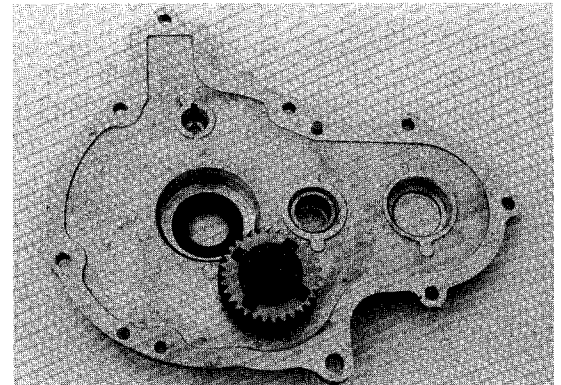

Figure 10-17
4. Install the idler shaft assembly into the cover. Torque nut to 36-50 ft.-lbs. Be sure reverse idler gear rotates freely (Figure 10-17).